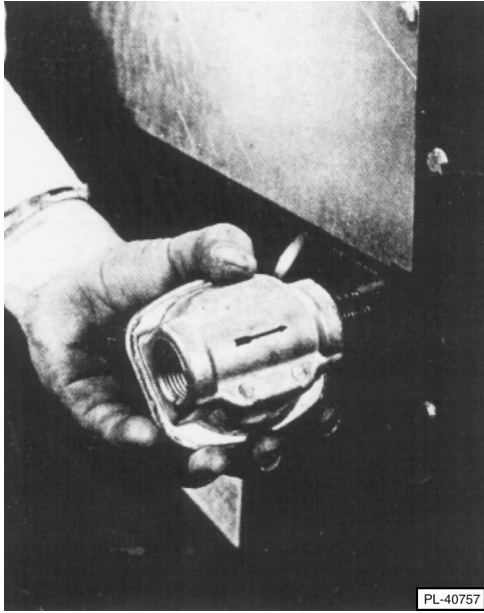

Fig. 9
3. Screw regulator hand-tight onto the pipe with regulator arrow pointing towards range body back (Fig. 9). The arrow on the regulator shows direction of gas flow.